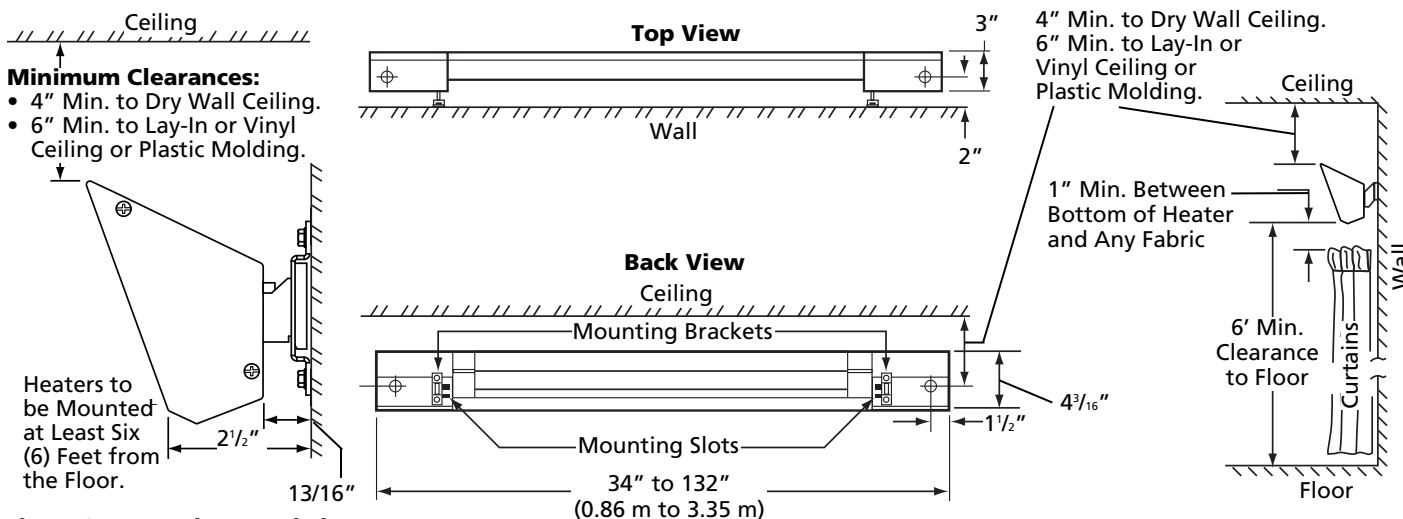
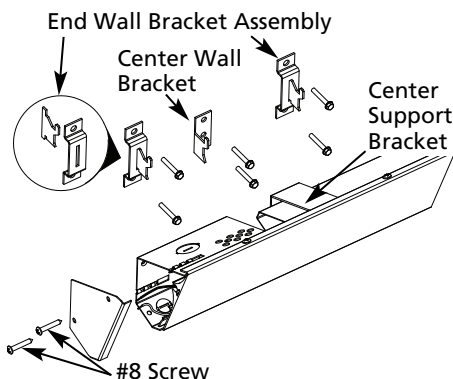

Figure 2 – Mounting Restrictions
Figure 3
⚠ CAUTION *The heater must be mounted at least 6' (182.8 cm) or (1.83 m) above the floor to prevent accidental contact. To prevent possible overheating or damage due to overheating, refer to Figure 2 for side, top, and bottom clearance requirements.*
1. Determine proper ceiling clearance per Figure 2. Using Table 1, determine the center to center distance of the End Wall Brackets for the particular model (wattage) to be mounted. Divide this value by 2 to determine the approximate location to mount the Center Wall Bracket. Mark these locations on the chosen wall. Locate a stud nearest the Center Wall Bracket mark. Use this location for mounting the bracket. Assemble End Wall Brackets per detail shown in Figure 3.
7. Attach end caps (found in parts bag) as shown in Figure 3.